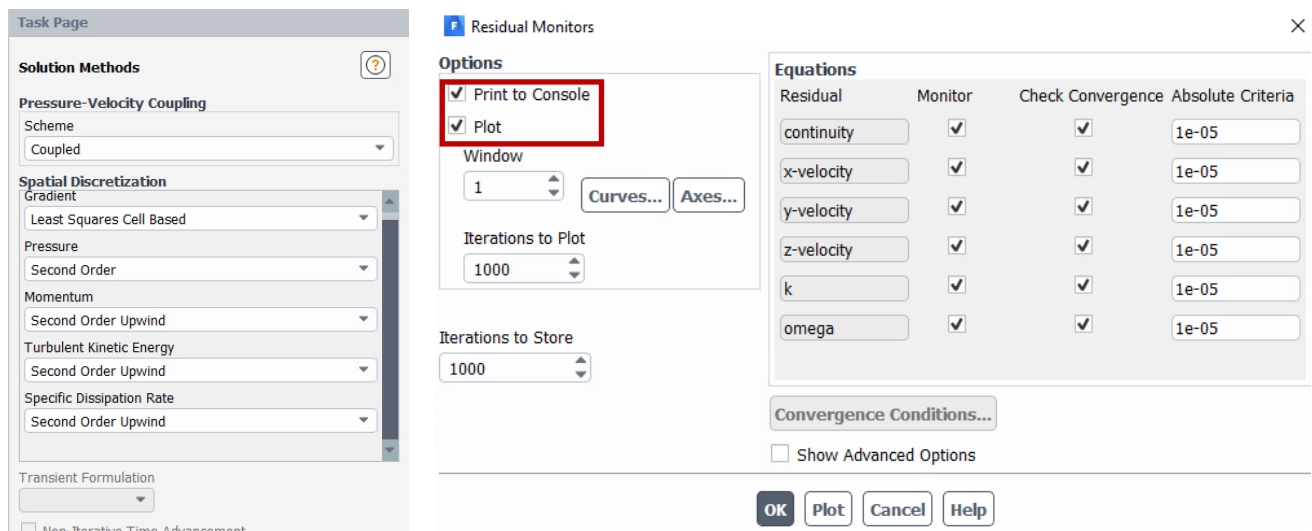

Figure 13. (left) Solver settings. (right) Residual Monitors settings.
- 3.1. In the **Outline View** pane, expand the **Solution** heading and double-click on **Methods**. Set the parameters in the **Task Page** pane to the values displayed in Figure 13 (left image), if it's different.
- 3.2. In the **Outline View** pane, under **Solution**, expand the **Monitors** subheading and double-click on **Residual**. In the **Residual Monitors** popup window, set the values as displayed in Figure 13 (right image). Click **OK**.